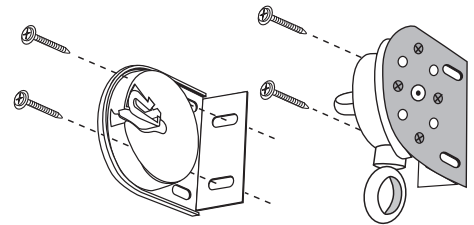

Fig. 2
d. Use screws to install Crank Unit and Idle End Unit brackets. (fig. 2)